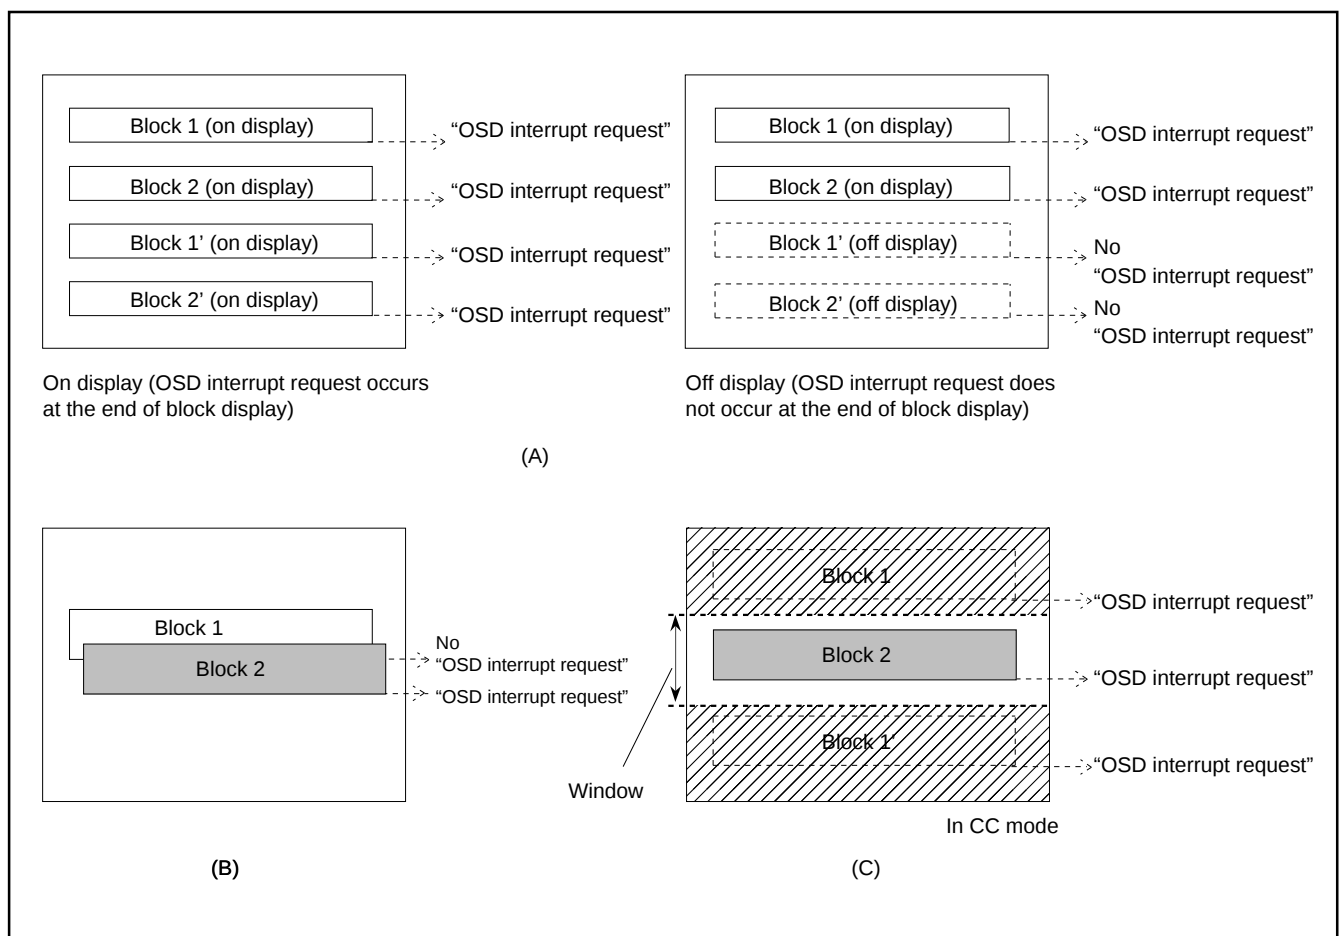

Fig. 67. Note on Occurrence of OSD Interrupt
**Notes 1:** An OSD interrupt does not occur at the end of display when the block is not displayed. In other words, if a block is set to off display by the display control bit of the block control register (addresses 00D216, 00D316), an OSD interrupt request does not occur (refer to Figure 67 (A)).
**2:** When another block display appears while one block is displayed, an OSD interrupt request occurs only once at the end of the another block display (refer to Figure 67 (B)).
**3:** On the screen setting window, an OSD interrupt occurs even at the end of the CC mode block (off display) out of window (refer to Figure 67 (C)).